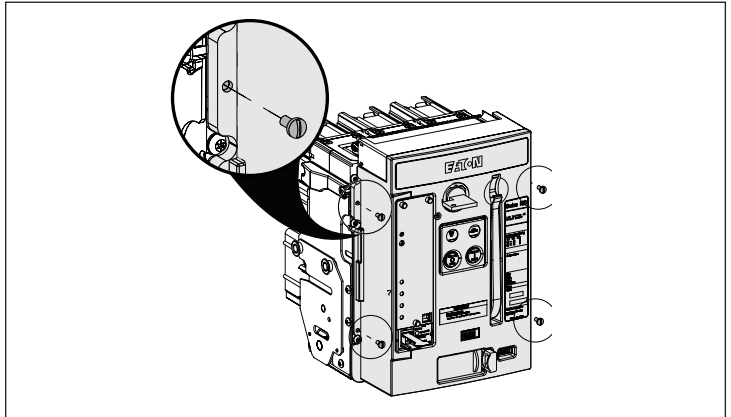

**Figure 1. Contents of Kit**
Refer to **Figure 1** for visual identification of the parts listed below:
**THE KEY MUST BE REMOVED FROM LOCK (B) BEFORE PROCEEDING WITH STEP 4. THIS ENSURES THAT THE CYLINDER WILL NOT SLIDE OUT WITH KEY AND INTERNAL LOCKING PARTS. FAILURE TO FOLLOW THIS INSTRUCTION CAN RESULT IN IRREVERSIBLE EQUIPMENT DAMAGE.**
**Step 4:** Refer to **Figure 1** for orientation purposes. Remove the key from lock (B). Remove the lever arm that came installed on the back end of the lock by removing the two small screws holding it in place. Discard the removed lever arm, two screws and one of the large locking nuts supplied with the lock.
**Step 5:** Refer to **Figure 1** for assembly orientation. Push the support washer (C) onto the back end of the key lock (B). Mount the key lock (B) to the mounting bracket (D) with the large locking nut (G). Ensure that the large locking nut is firmly tightened. Mount the key lock lever (H) supplied with the kit to the back end of the lock using two machine screws (I) also supplied with the kit.